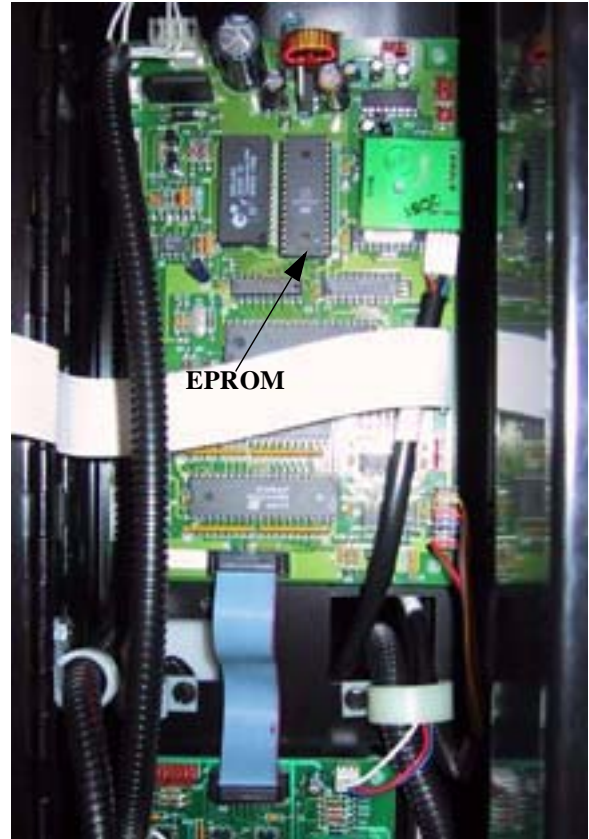

Figure 8
- Follow the detailed instructions to correctly install the new EPROM. So damage will not occur. (See figures 8 and 9)